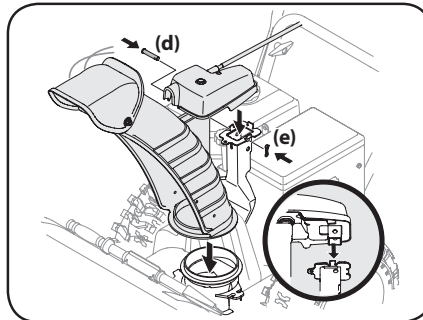

Figure 2-38
3. Place chute onto chute base and ensure chute control rod is positioned under handle panel. Secure chute control head to chute support bracket with clevis pin (d) and bow-tie cotter pin (e) removed in Step 1. See Figure 2-38.